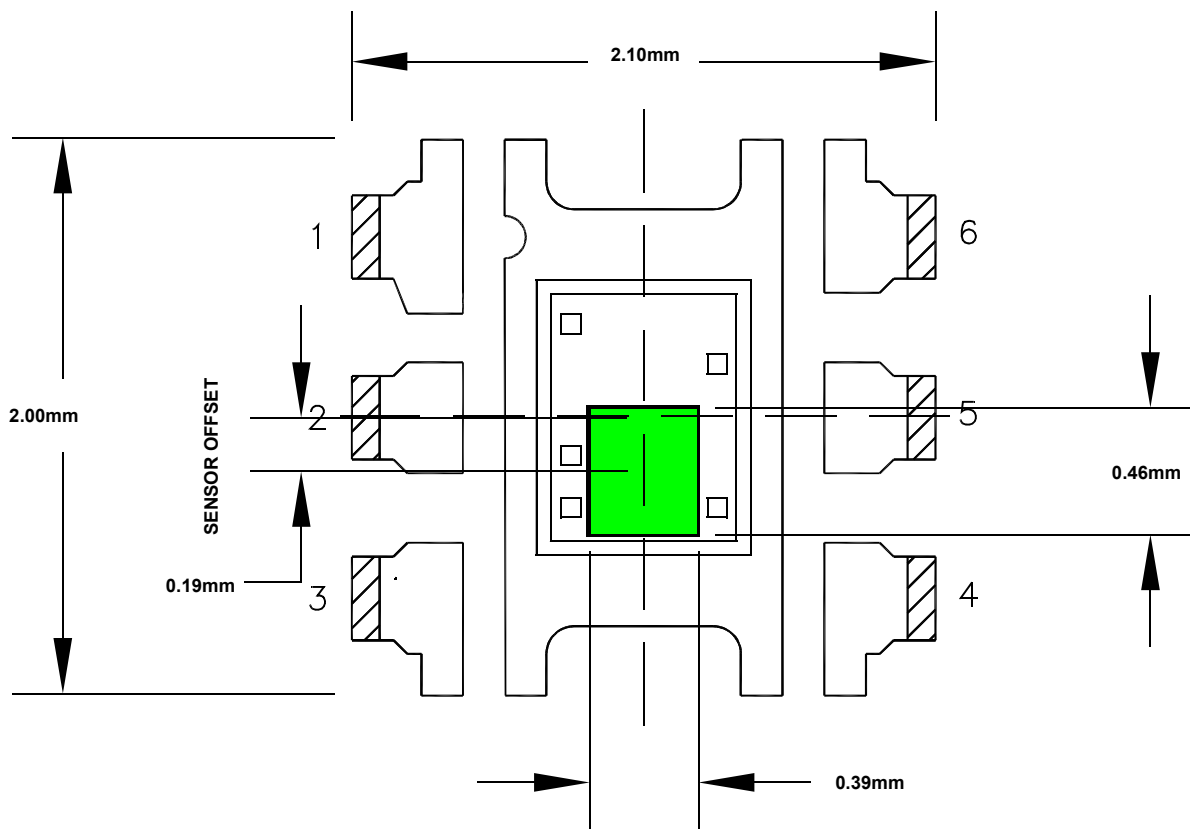

FIGURE 18. 6 LD ODFN SENSOR LOCATION OUTLINE
The green area in Figure 18 shows the optical sensor location outline of ISL29102. Along the pinout direction, the center line (CL) of the sensor coincides with that of the packaging. The sensor width in this direction is 0.39mm. Perpendicular to the pinout direction, the CL of the sensor has an 0.19mm offset from the CL of packaging away from pin 1. The sensor width in this direction is 0.46mm.